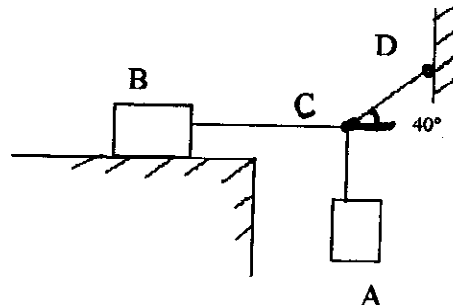

Fig.Q2
2. A block of weight 712N shown in the Fig.Q2 is resting on a horizontal plane with coefficient of static friction 0.3. Find the maximum weight of block A for which block B remains at rest.